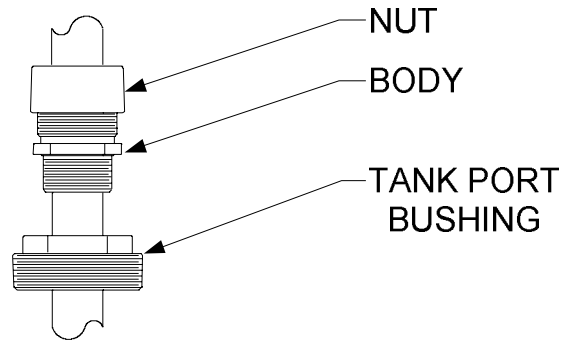

Figure 17: Nut and body installation
10. Tighten using the lower part of the body (Figure 17).